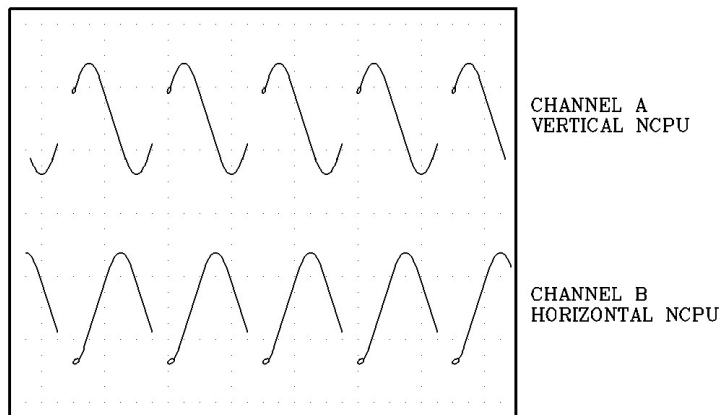

Fig. 3.5
12. Connect the horizontal transducer signal to channel B of the oscilloscope. The display should resemble Figure 3.5.